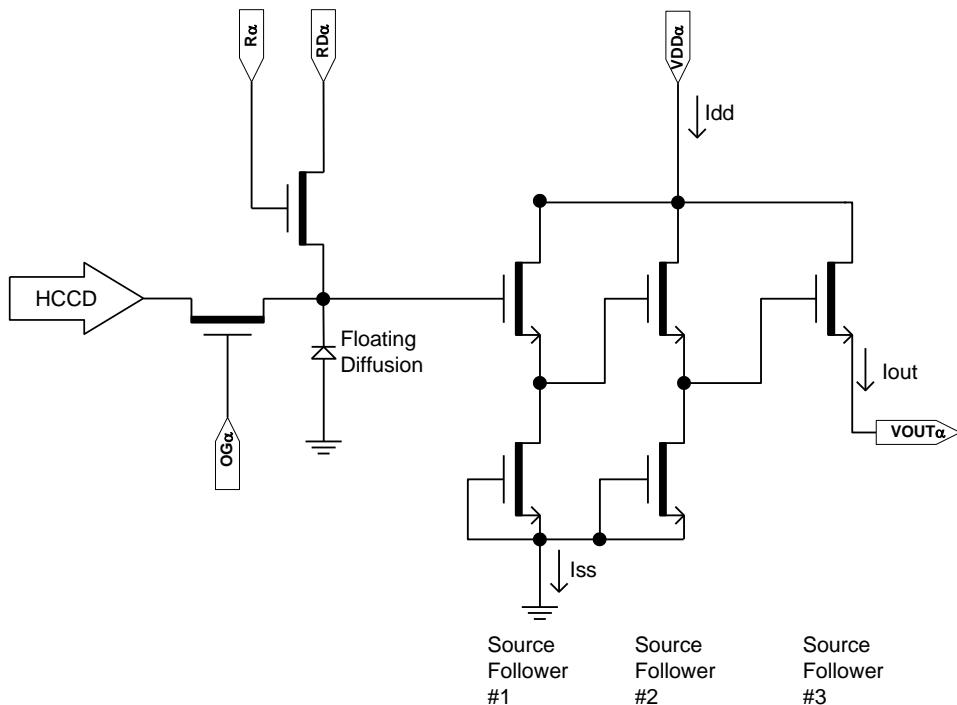

Figure 14: Output Amplifier
2. The maximum DC current is for one output.  $I_{DD} = I_{OUT} + I_{SS}$ . See Figure 14.